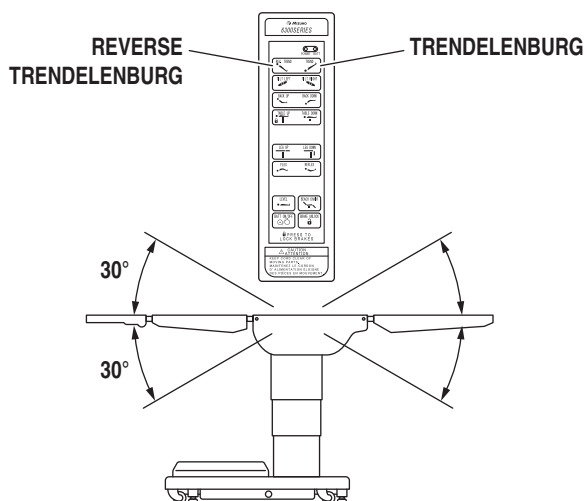

Figure 2-8. Trendelenburg Positioning
b. Trendelenburg To place the table in a Trendelenburg (head down) position, press the TREND button (figure 2-8). To place the table in a reverse Trendelenburg (head up) position, press the REV TREND button. Trendelenburg positioning of up to 30° may be obtained.